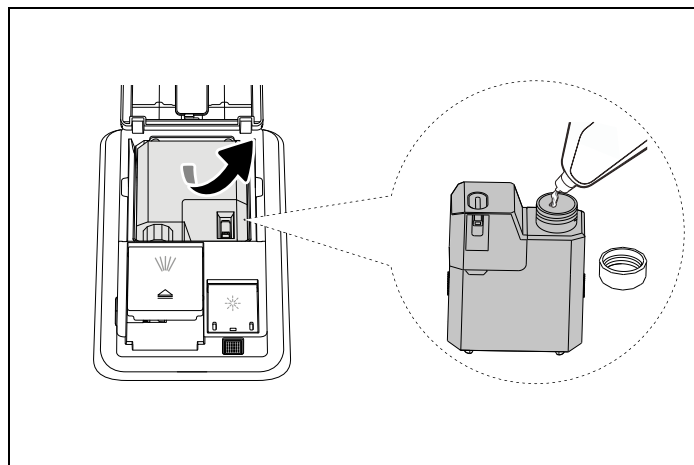

Fig. 68
- Take out the empty liquid detergent bottle and put the liquid detergent into it as Fig. 68 (Use only liquid detergent for the dishwasher).